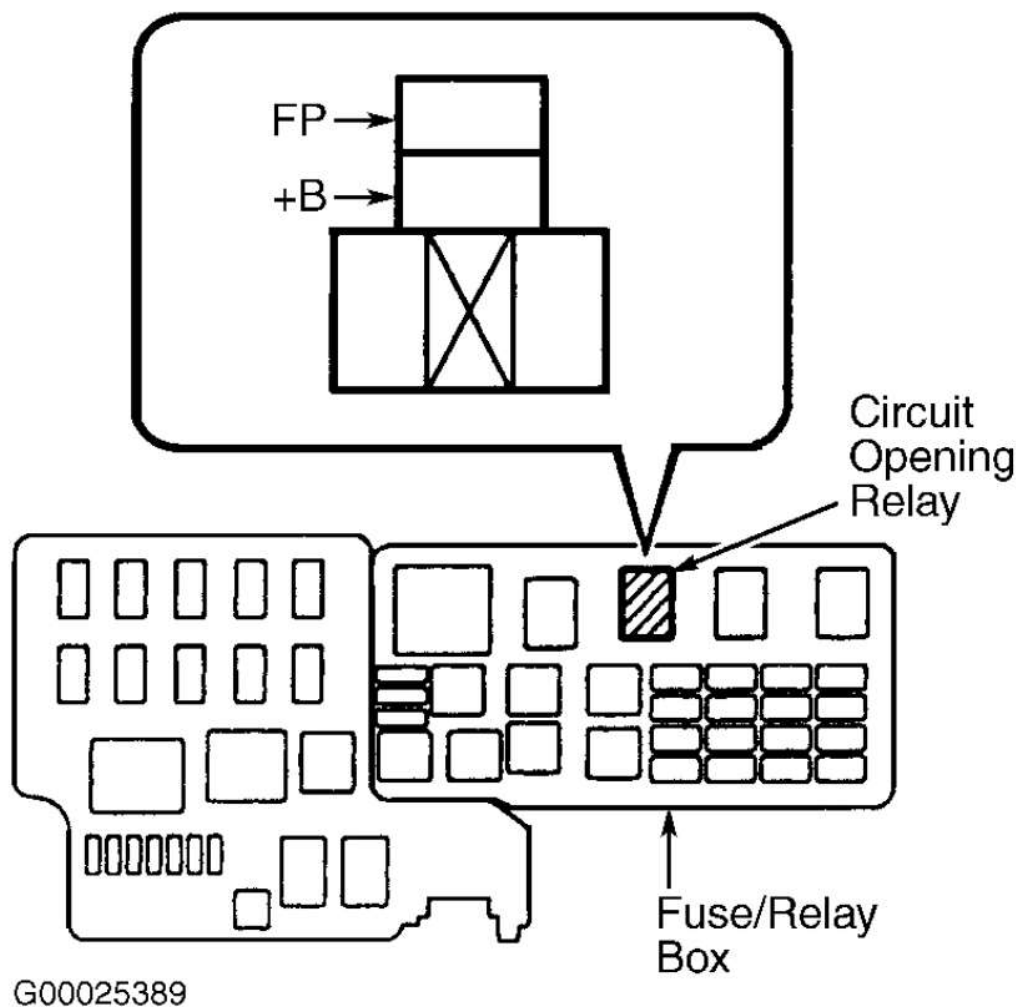

Fig. 12: Locating Circuit Opening Relay & Identifying FP & +B Cavities For Circuit Opening Relay (Camry)
1. Ensure ignition is off. Remove circuit opening relay from fuse/relay box. See **Fig. 12** . Fuse/relay box is located at driver's side front corner of engine compartment.